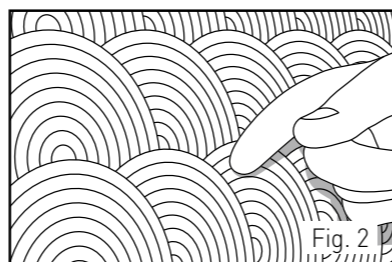

Fig. 2
- To cut panels, use a utility knife or hooked knife. If cutting several panels, use a circular saw with a guide rail (see Fig. 2).
- Check the glue's open time by placing a fingertip against different parts of the glued surface. If filaments appear when the finger is withdrawn, the required open time has been achieved. When the open time has been reached, the glue will retain its adhesive power for 15 to 40 minutes* (see Fig. 2).